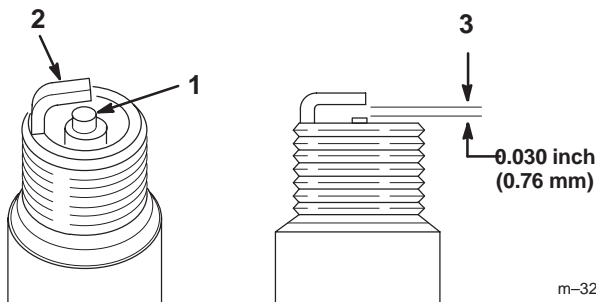

Figure 46
1. Clean the electrodes by scraping or with a wire brush to remove carbon deposits and wetness (Fig. 46).
2. Inspect the spark plug (Fig. 46).
3. Check the gap between the center and side electrodes (Fig. 46). Bend the side electrode (Fig. 46) if the gap is not correct.